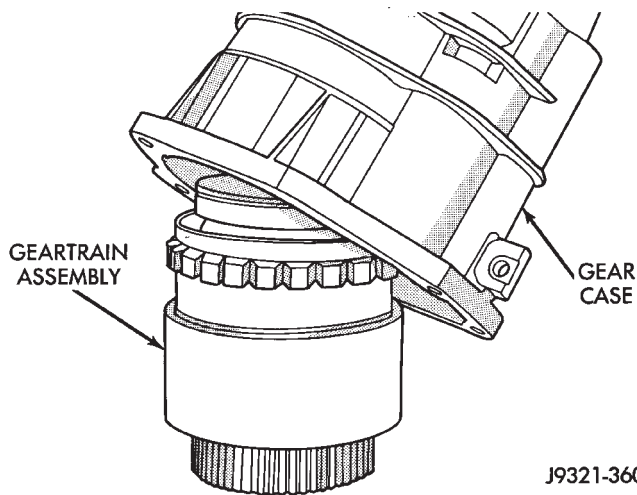

Fig. 16 Removing Gear Case From Geartrain Assembly
- (6) Lift gear case up and off geartrain assembly (Fig. 16).